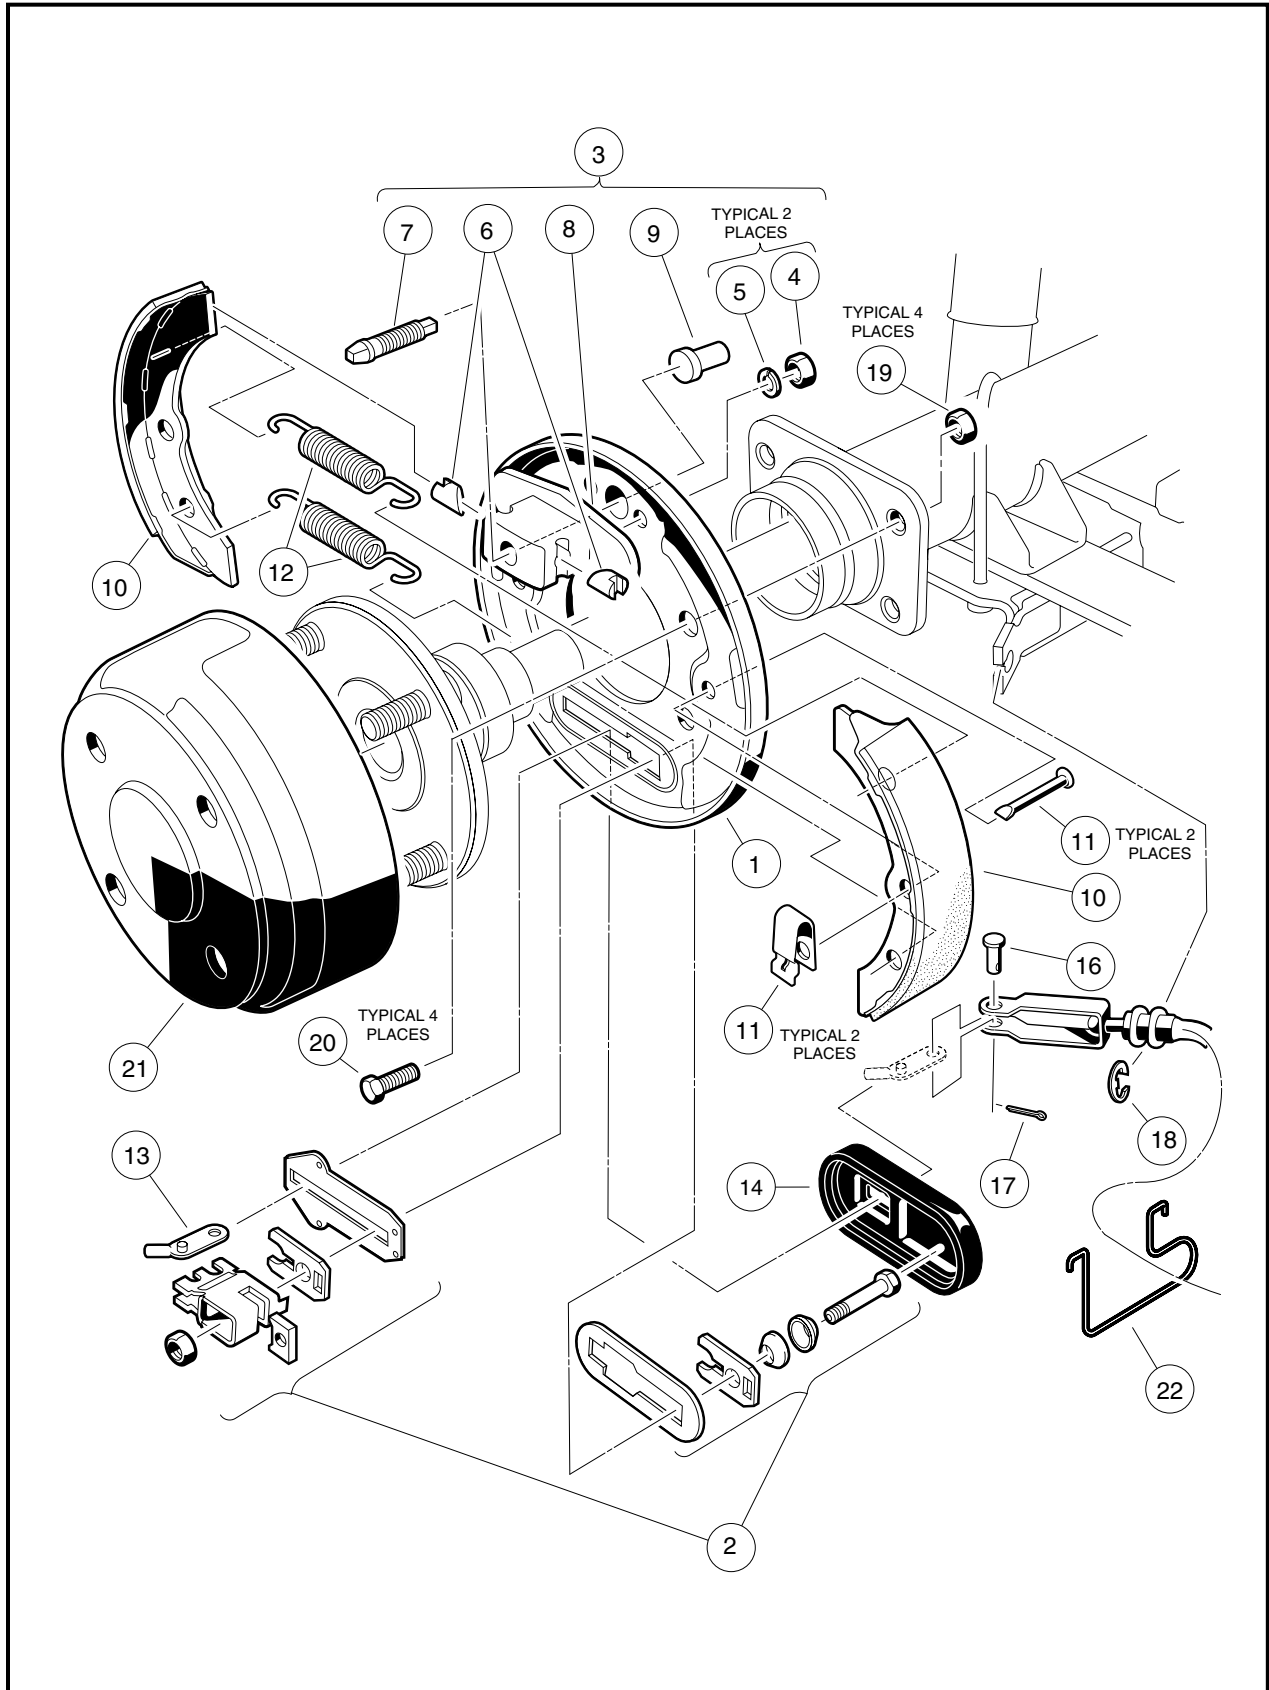

Figure 6-32 Rear Manually-Adjusted Brake Assembly
5. Remove cotter pin (17) and clevis pin (16) from brake cable (**Figure 6-32, Page 6-17 or Figure 6-1, Page 6-3**).
6. Remove 4 bolts (20) and cone lock nuts (19) that mount the brake assembly to the transaxle (**Figure 6-32, Page 6-17 or Figure 6-1, Page 6-3**).
2. Be sure bolts (20) and new cone lock nuts (19) are used to mount the brake assembly (**Figure 6-32, Page 6-17 or Figure 6-1, Page 6-3**).